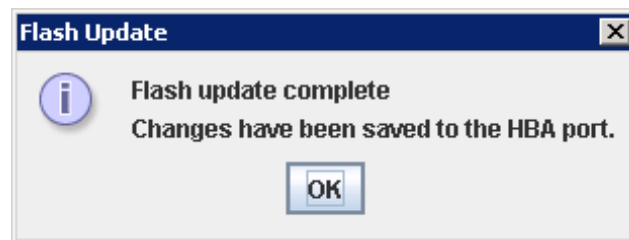

Figure 79 Flash update dialog box
9. SANsurfer may appear to be unresponsive while the adapter flash memory is being updated. A message will appear when the process is complete, as shown in Figure 79.